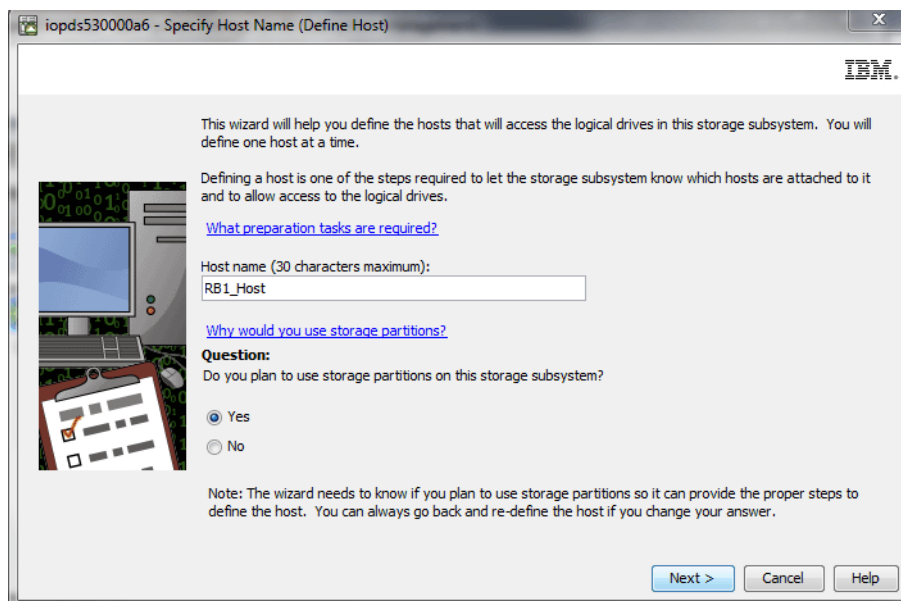

Figure 2-62 Creating the host name
3. When you specify the host name, the same policy applies: no spaces, and names that were not used before. You will see a question asking if you plan to use storage partitioning. We say **Yes** to this panel, as shown in Figure 2-62.